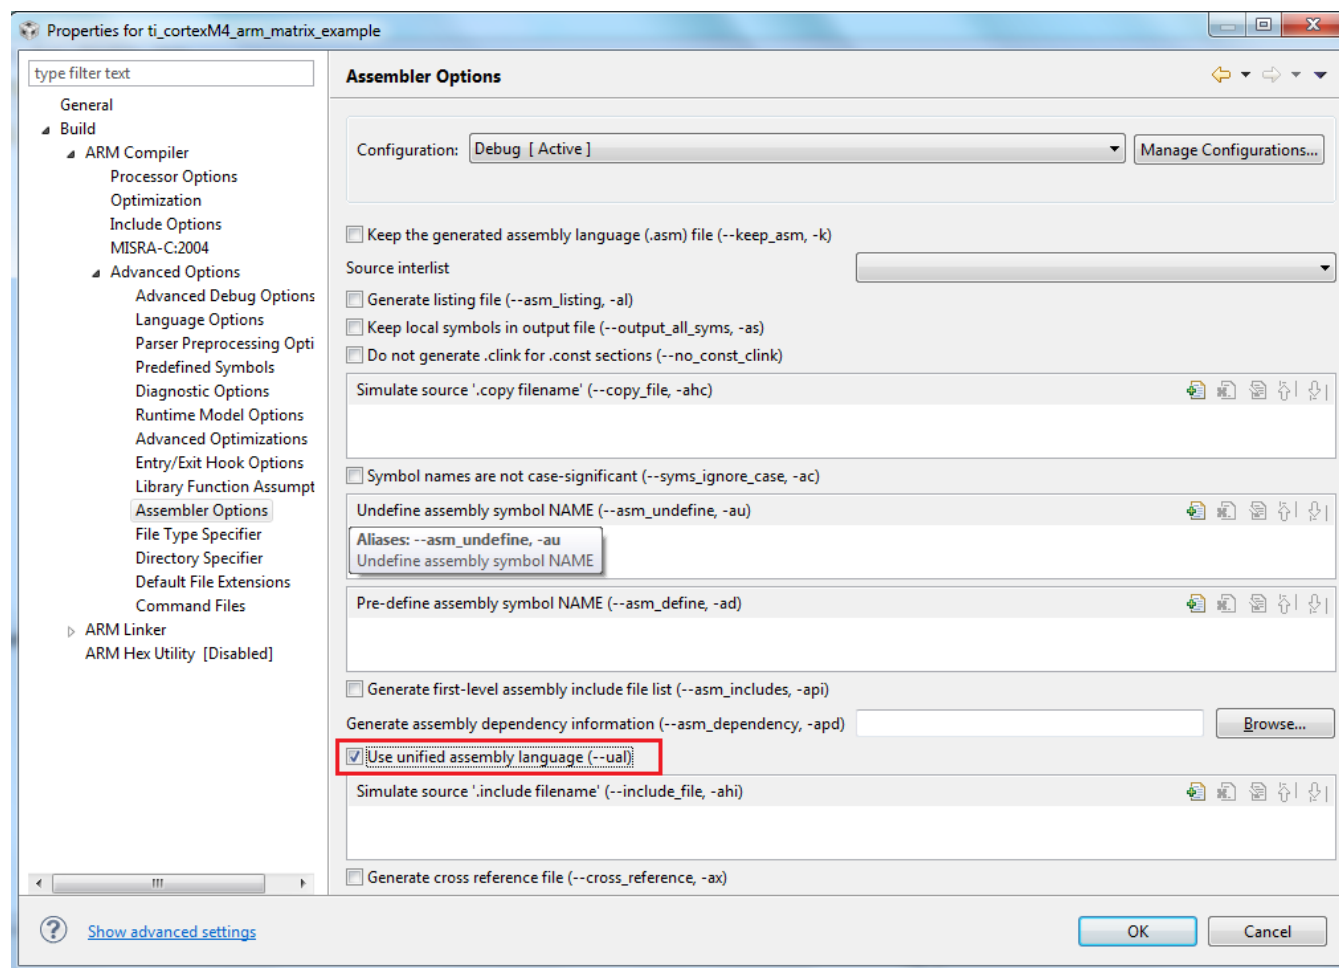

Figure 19. The Proper Assembler Options Needed for Compiling the Example Projects
6. Click the *Use unified assembly language (--ual)* checkbox to select that option (see Figure 19).